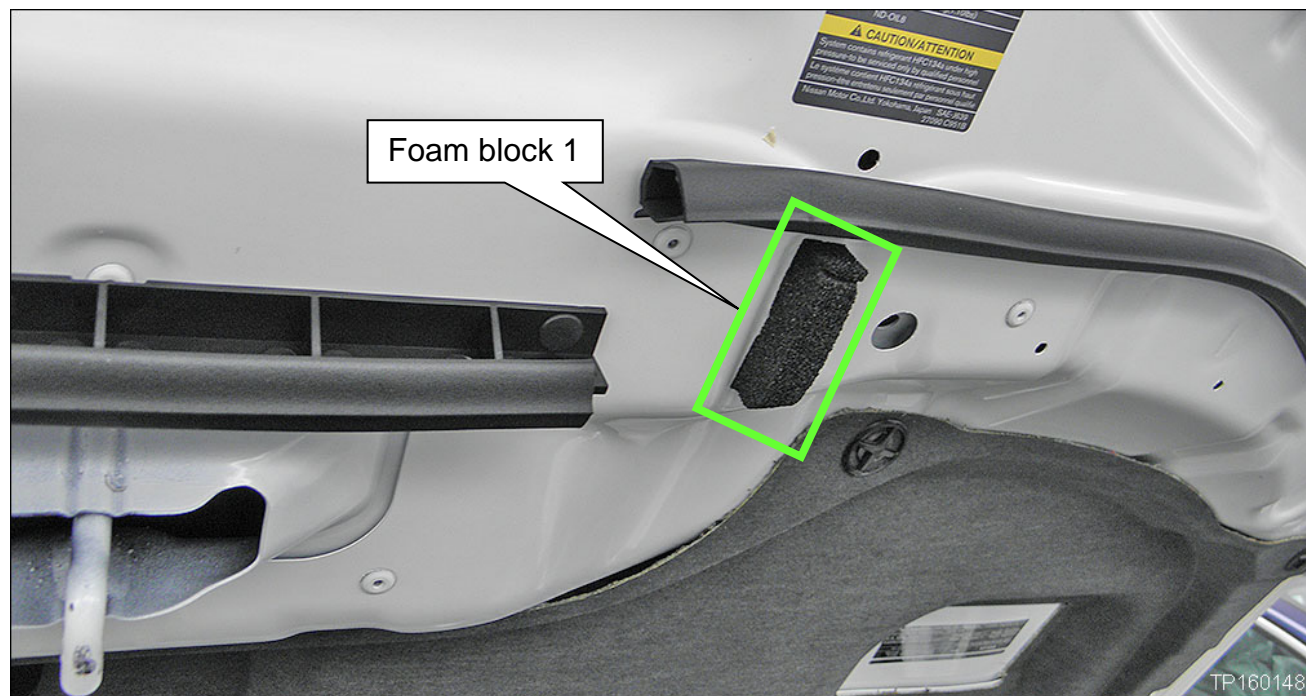

Figure 1
4. Inspect the location outlined in **green** in Figure 1 for the presence of foam block 1.